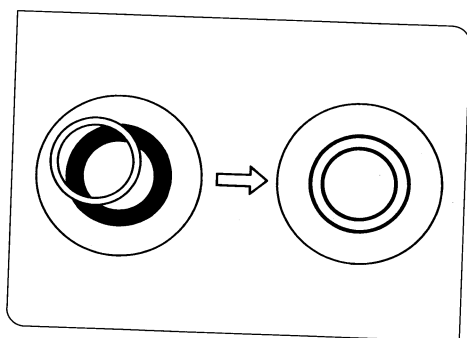

Fig. 55
- 1. Rotate the condenser turret ① to engage the phase contrast ring attachment (U-Ph1/Ph2/Ph3) that matches the objective to be used. (Refer to "OPTICAL ELEMENTS AND COMPATIBLE OBJECTIVES" on page 24 in the BX-UCDB instruction manual.)
- 4. Using the aperture iris diaphragm lever ②, open the aperture iris diaphragm.
- 8. Use the condenser annulus centering knobs to center the phase contrast attachment in such a way that the bright annulus concentrically overlaps the phase annulus within the field of view. (Fig. 55)